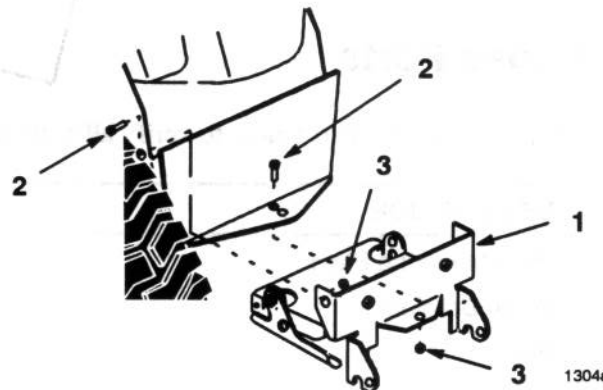

Figure 3
5. Install rear mounting plate/blade bracket assembly under and inside rear frame member with short tongue rearward (Fig. 3). Secure with bolts and lock nuts at holes in frame side members and tongue forward hole (Fig. 3).